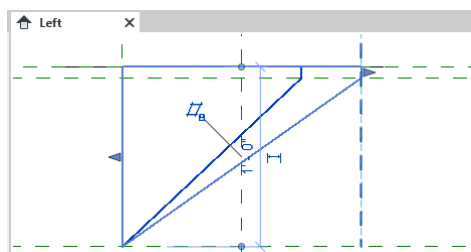

Figure 20
8. Zoom in on the Left elevation view. Use the control grip to drag the depth of the blend and snap it to the **Front** Reference Plane. **Lock it** (see Figure 20)¹